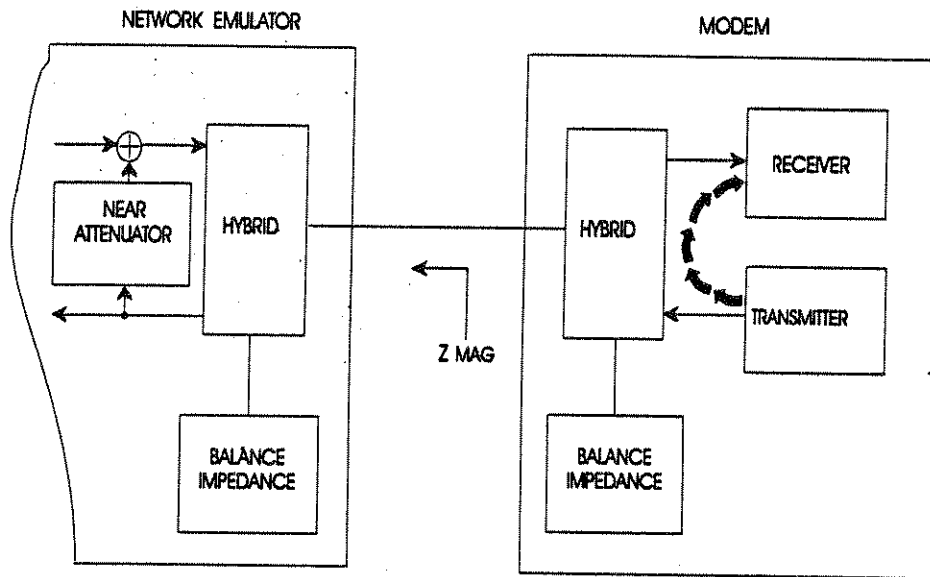

Figure 3-7. Near Talker Echo Without Loop
The TAS 100 Series provides near end talker echo simulation for station A and station B. Station A (B) near talker echo is illustrated in Figure 3-7 and is the reflection of the modem A (B) transmit signal that occurs at modem A (B). This reflection is caused by the impedance mismatch between the modem's hybrid balance impedance and the input impedance ( $Z_{mag}$ ) of the TAS 100 Series station A (B) 2-wire interface.